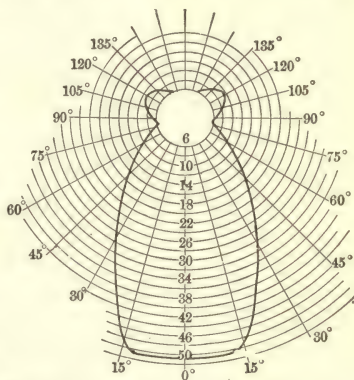

FIG. 384.—Vertical distribution, when fitted with shade.
When it is desirable to throw as much light as possible directly downward, some kind of a reflector or shade is used. Figure 384 shows the vertical distribution of light when the bulb is fitted with a special shade. From this curve it will be seen that the horizontal intensity is cut down to 6 candles, while the downward intensity runs over 50 candles.
8. If the lamp with the special shade described in section 415 were hung above a reading table, how high should it be hung? (See curve of distribution, Fig. 384.)